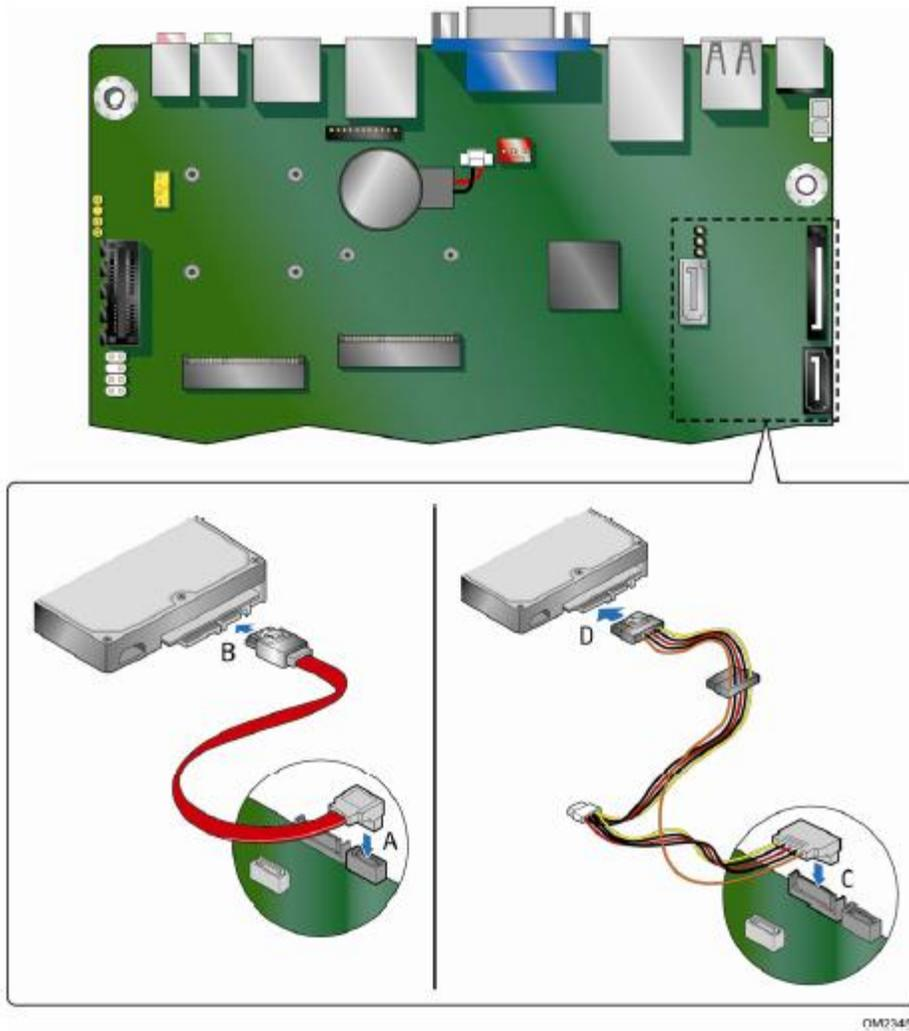

Figure 25. Connecting the SATA Data and Power Cables
2. Attach the right angled connector on the SATA data cable to one of the SATA connectors on the board (see Figure 25 → A).
3. Attach the other end of the SATA data cable to the SATA drive (see Figure 25 → B).
4. Attach the right-angled 15-pin SATA power connector on the power cable to the 15-pin SATA power connector on the Desktop Board (see Figure 25 → C).
5. Attach the 15-pin SATA power connector (see Figure 25 → D)